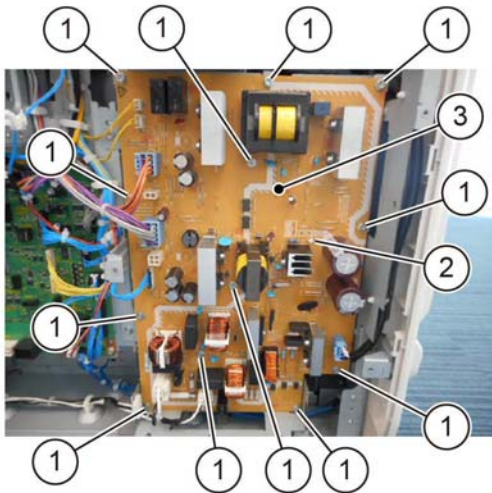

Figure 3 LVPS removal
4. Remove the LVPS, **Figure 3**:
- a. Remove 12 screws (1).
- b. Release the stand off (2), then remove the LVPS (3).